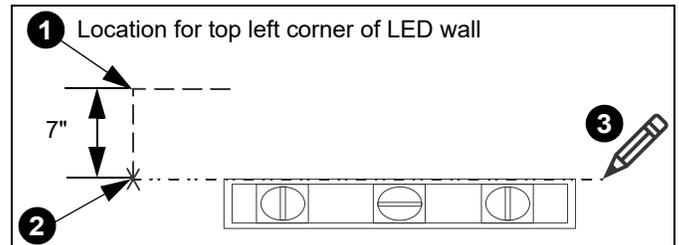
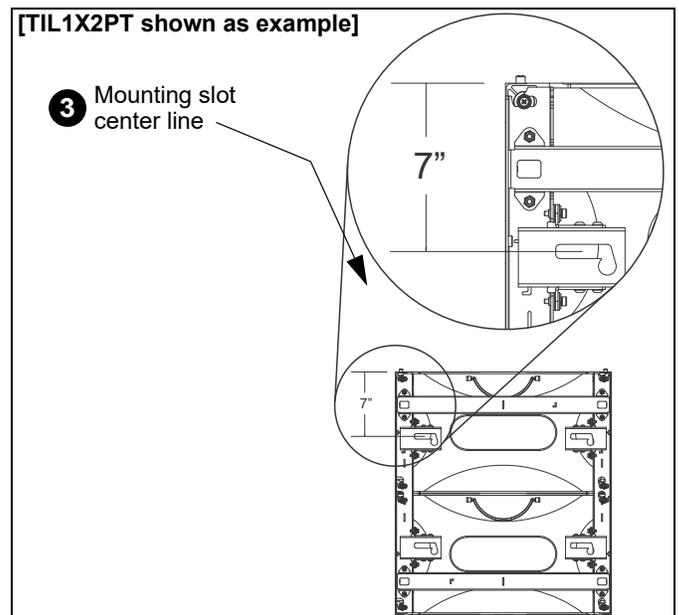

Figure 2
Figure 3
IMPORTANT ! : The top of the LED screen is 7" above the center line of the mounting lags in the mounting slots. (See Figure 2)
1. Determine location for the **top left** corner of the LED wall. (See Figure 2)
2. Make a mark 7" below the planned top left corner of the LED wall. (See Figure 2)
NOTE: This line will indicate the center line for the location of the mounting lags in the mounting slots for the top mount(s) in the video wall. The oversize mounting slots will allow some upward adjustment as needed. (See Figure 2) and (See Figure 3)